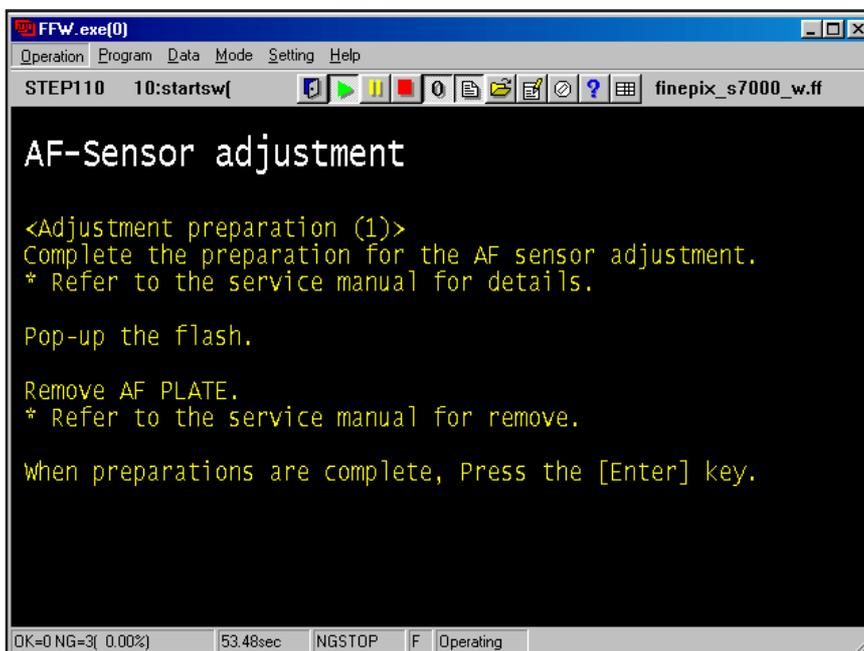

Fig.6
---> The [AF-Sensor adjustment Preparation Screen (Fig.6)] appears.